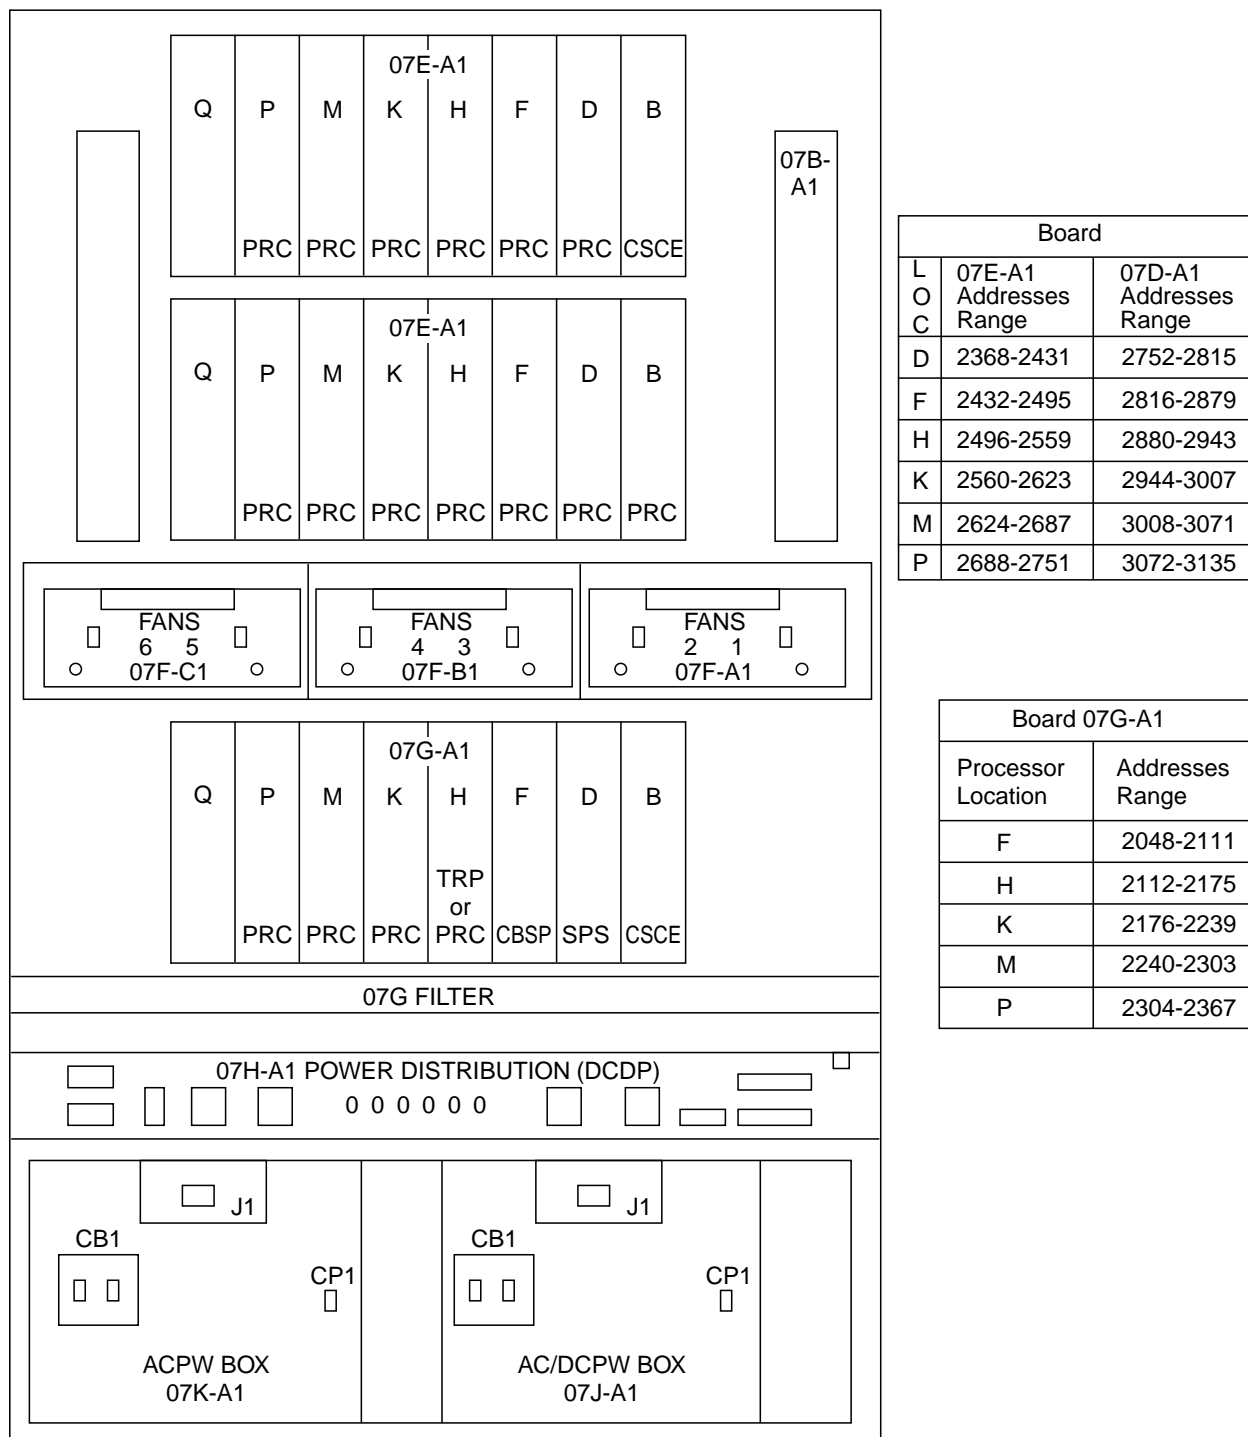

Figure 4-9. 3746-950 Front Side
1. Locate the air filter **1** at the front of the machine using Figure 4-9 on page 4-8.
1. Locate the ACPW that you have to exchange using Figure 4-9 on page 4-8.